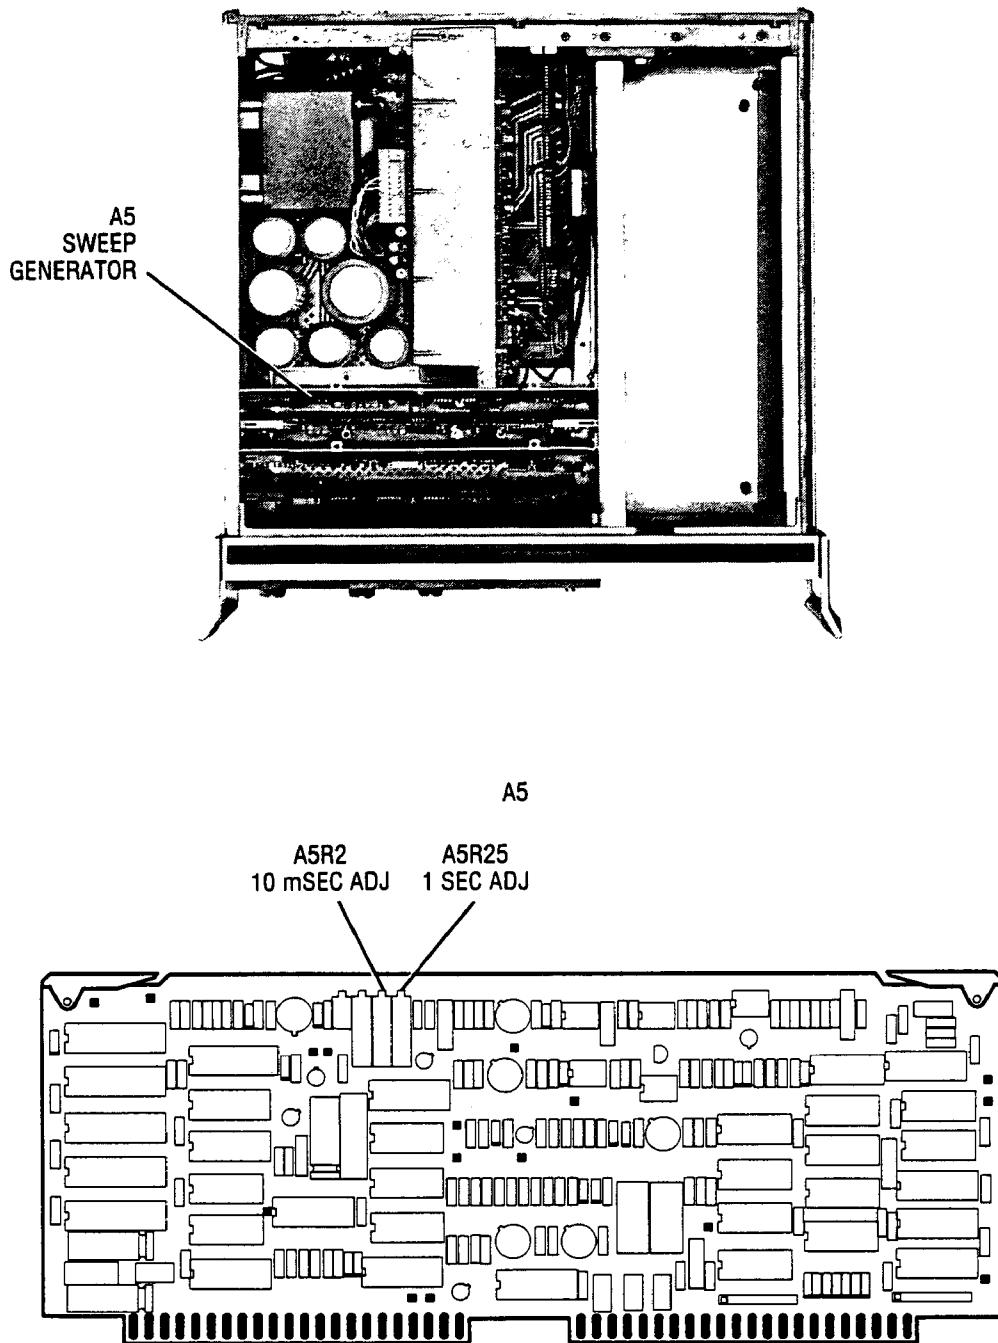

Figure 5-9. Location of Sweep Time Adjustments.
7. Adjust A5R2 (10 mSEC ADJ) for a counter reading of  $10.000 \pm 0.020$  ms. Refer to Figure 5-9 for location of the adjustment.